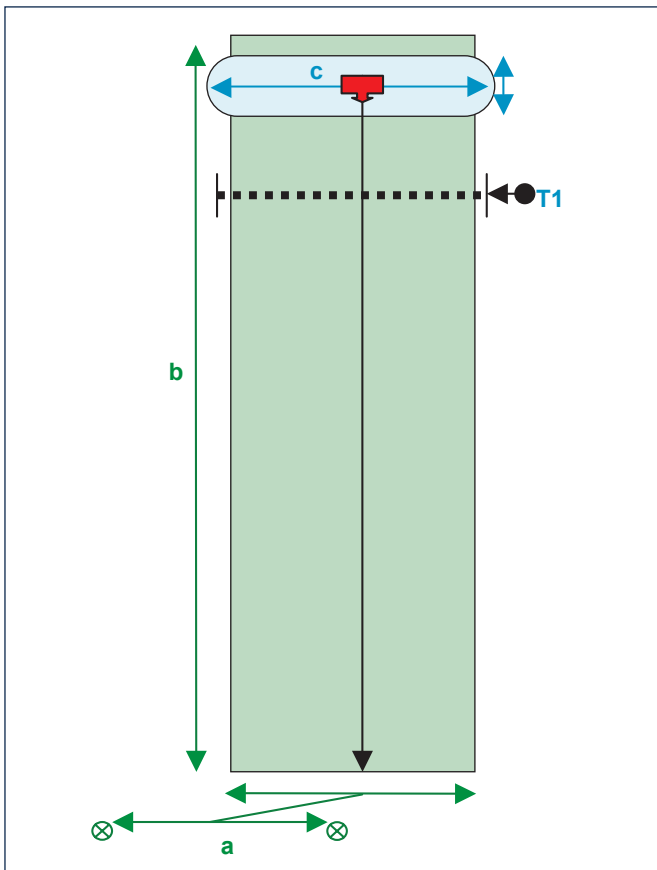

Figure 2.1. Layout of calibration test for travelling irrigators
1. Place markers half way between the test hydrant and the hydrant to the left (See Figure 2.1)
2. Repeat on the right hand side. The space between the markers is the Run Width (a in Figure 2.1)
3. Mark the extent of obvious wetting when the irrigator runs. This is the “Wetted Width” (c in Figure 2.1)
9. Measure the Run Length (b in Figure 2.1)
10. Measure the Run Width (often hydrant positions) (a in Figure 2.1)